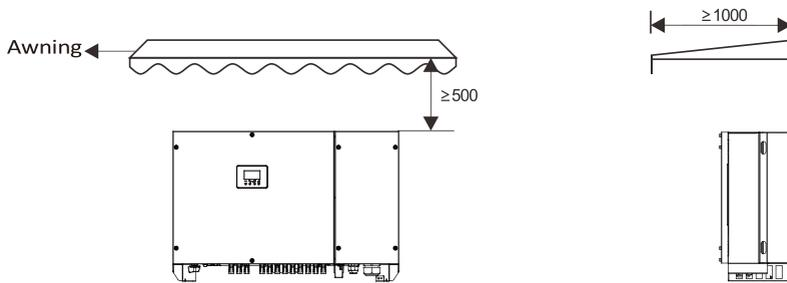

Figure 4.2 Installation environment with awning (unit: mm)
- ⊙ The inverter must be free from direct exposure to sunlight, rain, and snow to extend its service life. It is recommended that the inverter be installed in a sheltered place. If no shelter is available, build an awning, as shown in Figure 4.2